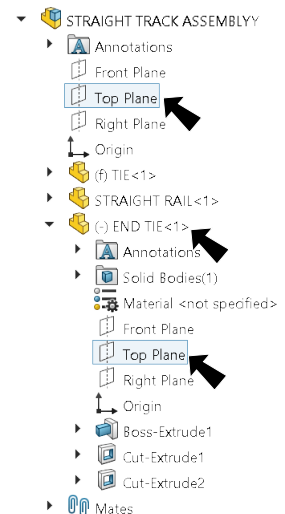

Fig. 15
Step 2. Expand the flyout Feature Manager design, expand **End Tie** and click **Top Plane** , **Fig. 15**.